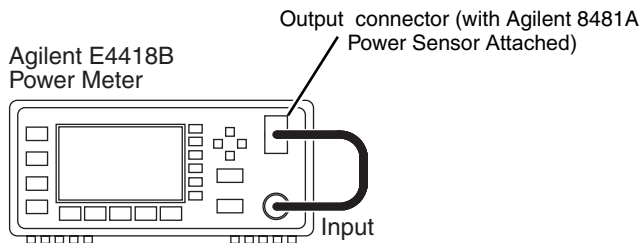

Figure 2-4. E4418B Power Meter Zeroing and Calibration Test Setup
- 1 Connect the Agilent 11730A Power Sensor Cable to the Agilent 8481A Power Sensor (see Figure 2-4).